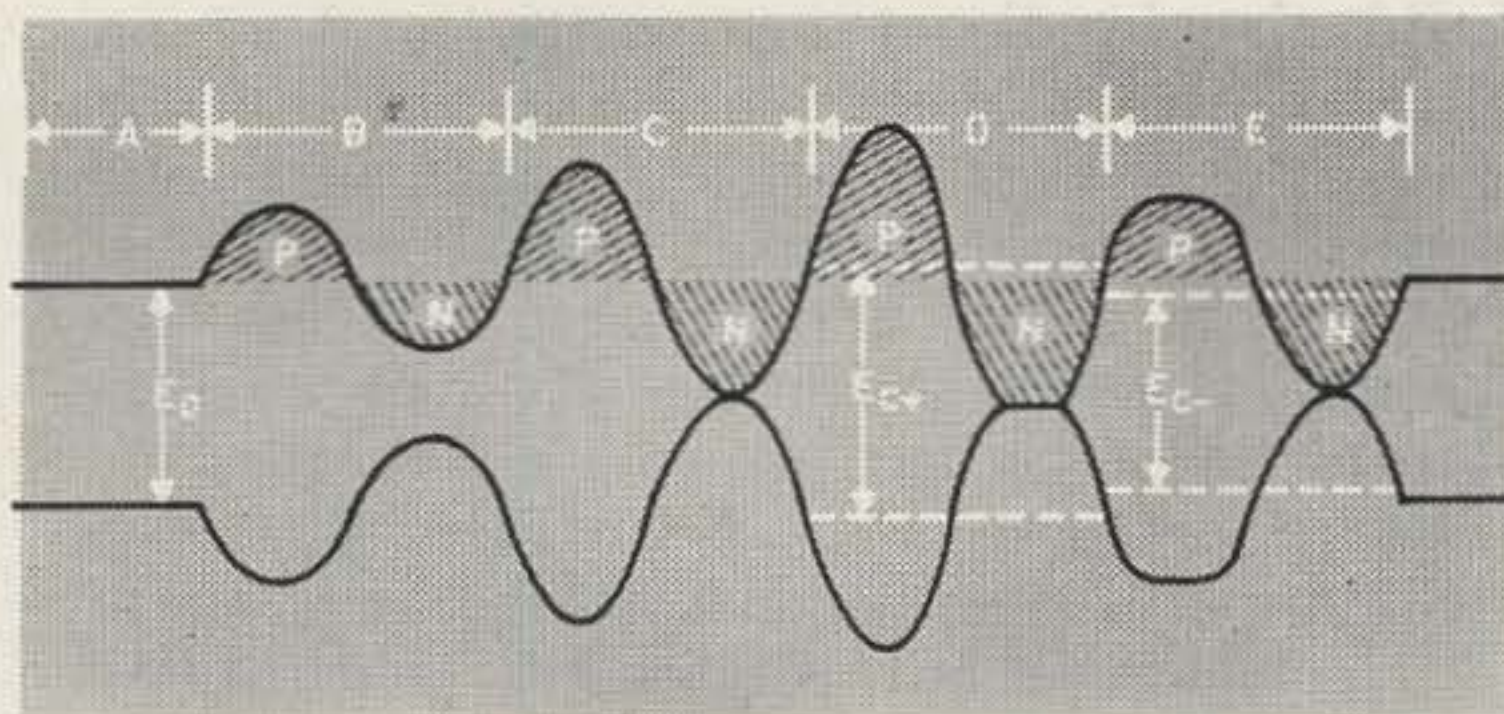
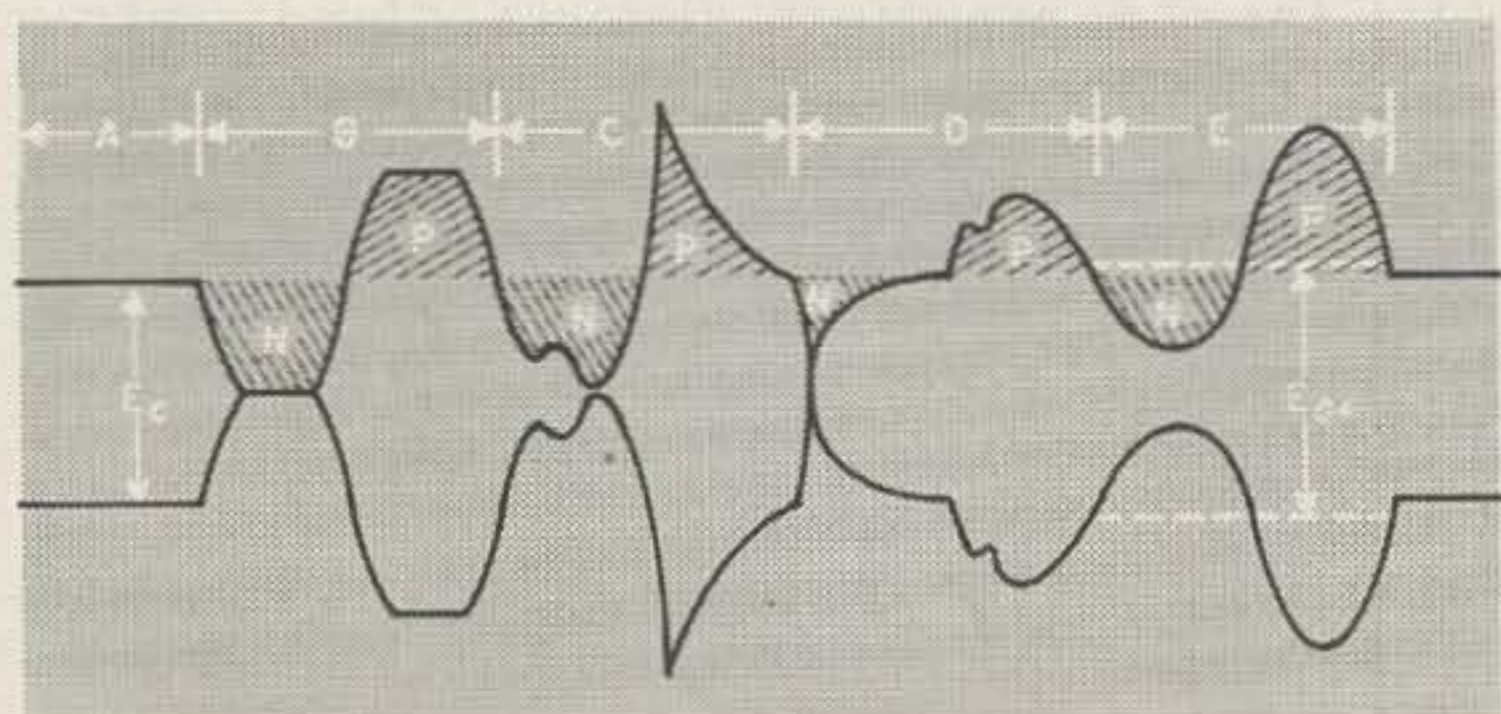
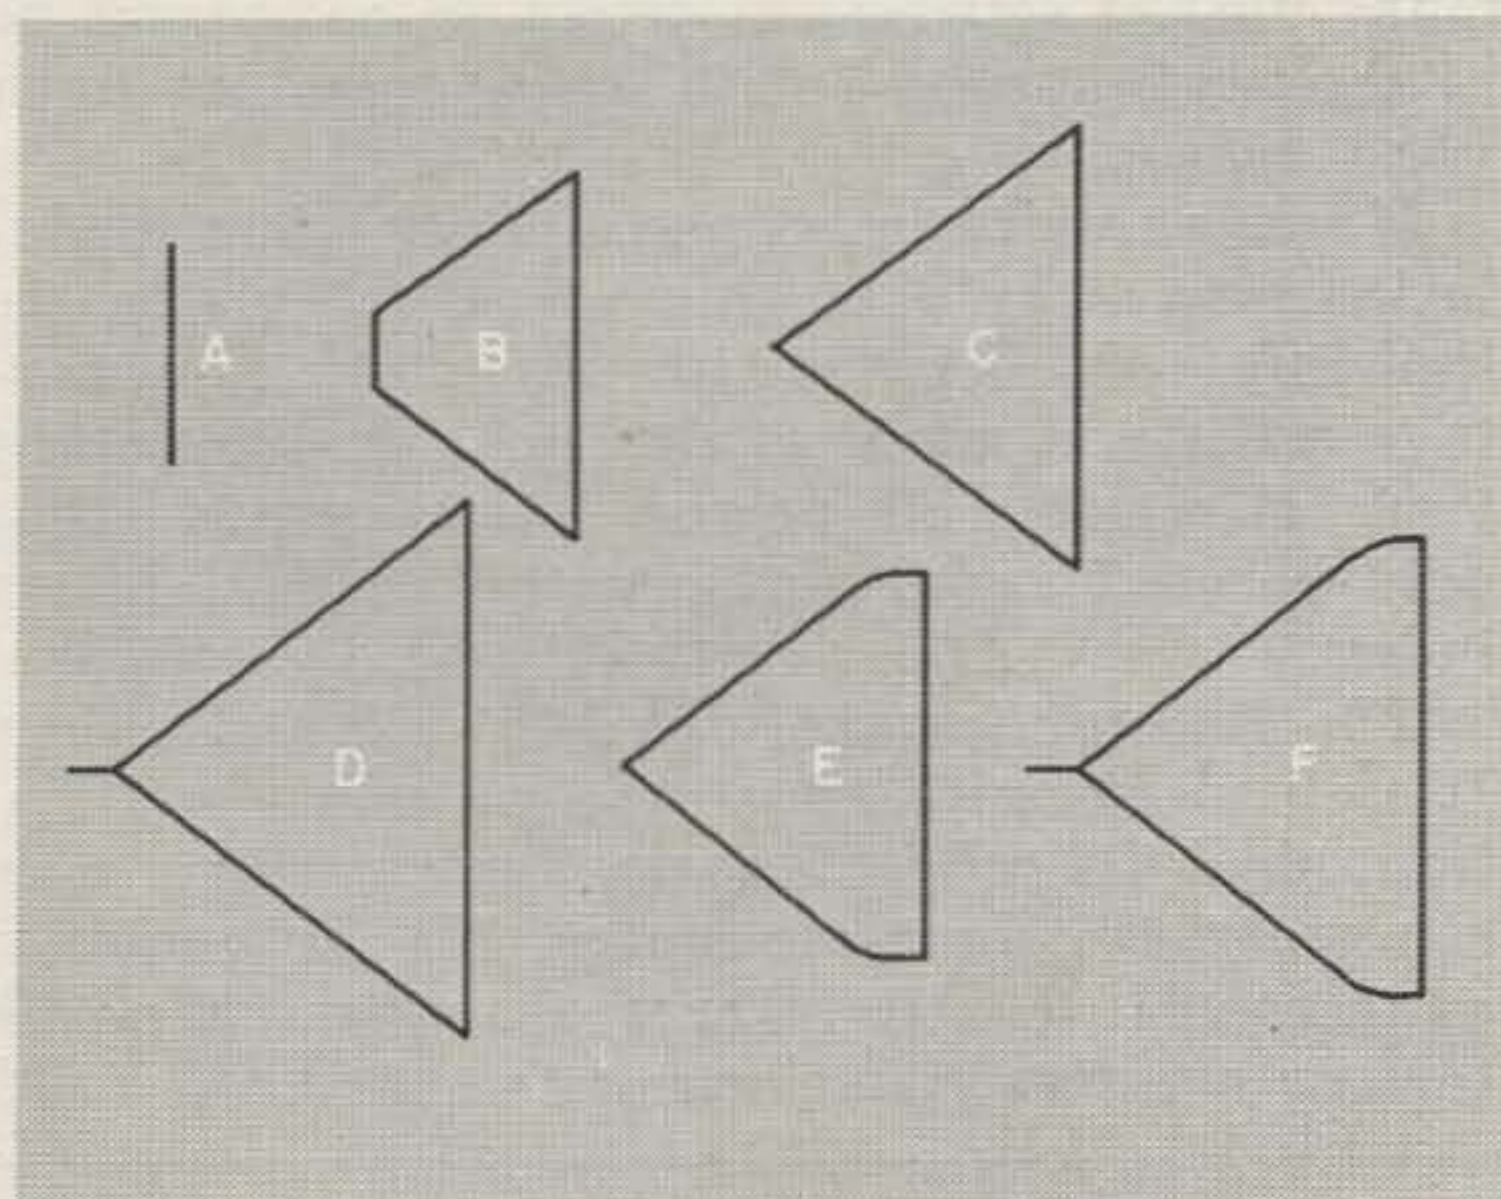

Fig. 1
Fig. 2
Fig. 3 — 1
capacitance, the scale is linear and there is no need for other than full-scale calibration. Hence, a variable resistor, R5 in Fig. 1, is used to shunt a bit of extra current around the meter, to allow for battery aging and also to eliminate the necessity of setting the multi-vibrator exactly on frequency.
The MV, in Fig. 1, has three possible states of normal operation. They are: Q1 conducting and Q2 cut off, or Q2 on and Q1 cut off, or a transitional state where both conduct. When the power switch, S1, is first turned on either Q1 or Q2 starts to conduct more readily than the other due to inherent circuit unbalance. Due to the regenerative action of the cross coupled amplifiers one or the other soon is
driven to saturation, with the opposite amplifier cut off by the large positive bias developed by the charge on the coupling capacitor. The plus charge drains off toward the B— thru the base bias resistor, and at about —0.1 volts of base bias, the cut off transistor then conducts, and regeneration quickly causes this transistor to become saturated, with the opposite one cut off. This process repeats itself at a rate governed mainly by the base bias resistors, R2 and R3 in Fig. 1, and the inter-coupling capacitors, C1 thru C8. The result is more or less a square-wave. A capacitor, Cx, is connected across the terminals J1 and J2 with the instrument turned on. When Q1 is conducting and Q2 is cut off, Cx is charged to practically the full battery voltage thru CR1. On the next half cycle Cx discharges thru CR2 and the meter, M1, and recharges again in the opposite polarity, to the supply potential. The result is, of course, a
If no modulation is applied, the rf envelope height remains constant as in Fig. 1-A. Fig. 1-B shows the envelope sinusoidally modulated at about 70%, and if nothing unsanitary hap-
With a good transmitter, we should be able to increase the amplitude of the modulating signal to obtain 100% modulation (Fig. 1-C) while still maintaining an average amplitude of  $E_c$ : no carrier shift.
If the transmitter is capable of extended positive peak modulation (and few really are), a further increase in the modulation gives the pattern of Fig. 1-D. Here the transmitter shuts itself off for a brief portion of the negative peak, so that the positive peaks' areas (P) are greater than those of the negative peaks (N). Now the average rf amplitude increases to  $E_c +$ : positive carrier shift. The clipped negative peaks represent a source of vicious splatter. Their sharp corners correspond to modulating frequencies much higher than the actual output of the modulator, and the resulting sidebands are much farther from the carrier than normal. Modulating frequencies this high would not ordinarily be passed by the modulation transformer, so that the broadening will be more severe than that which audio distortion alone could cause.
If the transmitter distorts the positive peaks, splatter may also be produced. In Fig. 1-E the negative peak is the same as 1-C, but the flattened positive peak makes area P less than area N, so that a negative shift in carrier amplitude occurs, and the average rf amplitude becomes  $E_c -$ . Actually this flattening is usually more gradual than in 1-D, so the signal may not be quite as broad. It can still clutter up several adjacent channels, however.
If Fig. 1-E represents the output of a linear rf amplifier or a grid-modulated stage, other causes suggest themselves. In these systems, the rf amplifiers' plate efficiency must approximately double on positive modulation peaks, so if the grid drive is too high, the unmodulated efficiency will run too high and the positive peaks must suffer. Some relief is available here by using a lower plate load impedance to raise the limit of plate current. By juggling drive and loading, we can usually restore the positive peak.
Figure 2-B shows that two wrongs don't make a right. Here a rare combination of circumstances has resulted in overmodulation without carrier shift, since positive peak flattening exactly matches the negative clipping caused by overmodulation. The average rf amplitude is unchanged from its unmodulated value (Fig. 2-A). Splatter, however, is abundant . . . the modulator is putting out a sine wave. What if the modulator's output waveform actually was that shown? In that case we would have no splatter by our definition,
Figures 2-C and 2-D show the reasoning behind "extended positive peak" modulation. Voice and music modulation often produces waveforms with unequal peaks. Here a waveform of that type is shown; 100% modulating a radio wave, first in one polarity and then in the other. The drawing is intended to indicate that in both cases the positive peak (P) and the negative peak (N) include the same area. In Fig. 2-C however, the smaller peak is applied negatively, and (assuming again that the transmitter can handle the extended positive peak) modulation in the positive direction can actually exceed 125% without splatter. No carrier shift exists. If, as in Fig. 2-D, the modulating signal is applied in the opposite polarity, the gain control must be backed off, and the sideband power decreased accordingly to prevent negative peak overmodulation, carrier shift, and splatter. The correct polarity for your particular voice may be found by reversing any two wires in the audio system . . . or even, with some types of microphones, by speaking into the other side of the microphone. The pattern is most easily interpreted for voice modulation if a slow linear sweep (under 100 cycles) is applied to the horizontal plates and the transmitter's rf output sample directly to the vertical plates of the 'scope.
Even if your voice waveform exhibits as much unbalance as in Fig. 2-C, there is a very good possibility that your transmitter cannot handle the extension of positive peaks, for the reasons listed in reference to Fig. 1-E. If you decide to carry the extension farther than can be done by finding the favorable audio polarity, systems have been evolved where a sine wave output from the modulator causes extended positive peak modulation as in Fig. 2-E. We recognize this as carrier shift, and we must admit that it will produce splatter since the modulated wave outline does not conform to the modulator's output waveform. There is a possibility that, if not carried to excess, the spurious side-frequencies produced will not cause serious adjacent channel interference. We have no assurance that the additional sideband power that we attain in this way will not be objectionable, or that it will contribute to intelligibility at the receiver. Systems of this sort which have been suggested in amateur publications do not guarantee against adjacent channel interference even though the negative peaks are not clipped; nor do they put all the extra sideband power through the selective portions of the receiver.
Before we make any suggestions, let us review the 'scope patterns by inspecting their corresponding trapezoidal displays. Fig. 3-A, of course, represents the trapezoidal pattern for no modulation. Figs. 3-B, C, D, and E correspond to Figs. 1-B, C, D, and E respectively. Fig. 3-F shows the highly improbable case outlined as a modulated envelope in Fig. 2-B. Drawn to the same scale, Fig. 3-G, in its entirety, is larger (by the cross-hatched area) than 3-C. Due to the greater peak amplitudes obtained with the extended positive peak modulation encountered in the corresponding Fig. 2-C. The shaded triangle of 3-G shows the reduction of positive peaks necessary to prevent overmodulation with improperly polarized audio (2-D). You may have noticed that any bends or corners in the non-parallel sides of our trapezoid represent carrier shift. In 3-D, E, and F, the departures from linearity are abrupt. In 3-H, the bending is gradual, but carrier shift still exists, reflecting the condition (2-E) of artificially extended positive peaks.